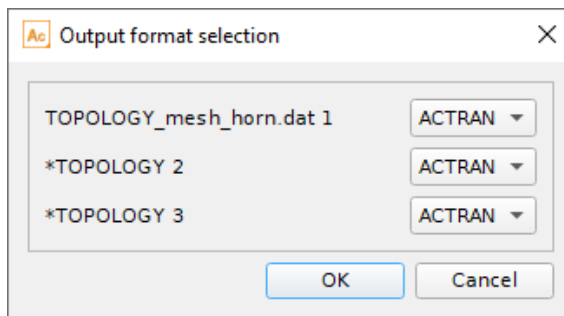

Figure 6.32: Choose ACTRAN format for the Topology export
- In the popup window, select the ACTRAN output format for the Topology, as shown in Figure 6.32;